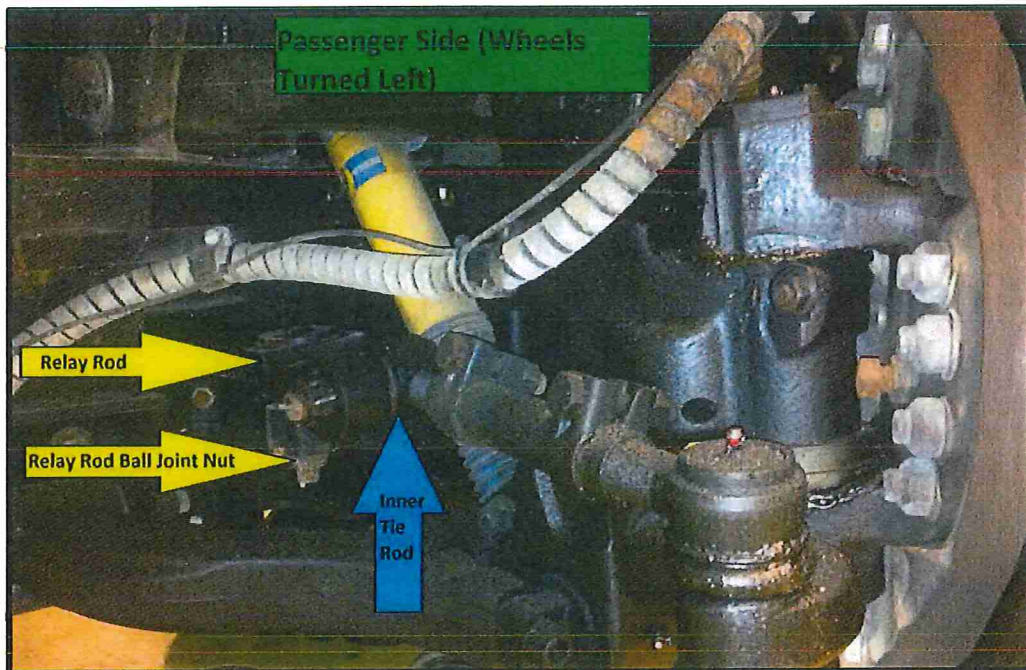

FIG. 4-1
3. Turn the steering to full left lock to gain access to the relay rod from the passenger side. Starting on the passenger side remove the following from the relay rod. Refer to FIG. 4-1: